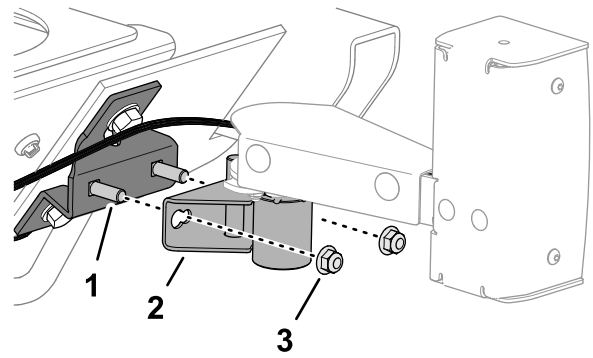

Figure 52
5. Install the pivot bracket to the carriage bolts in the swivel-adapter mount (Figure 52) with 2 flange locknuts (3/8 inch).